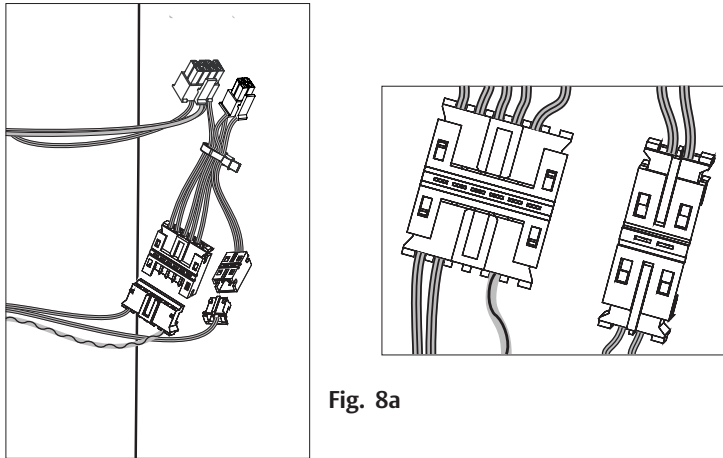

Fig. 8a
- a. Connect 6-pin connector from lock body to 6-pin connector on reader harness (Fig. 8a).
- b. Connect 2-pin connector from lock body to 2-pin connector on reader harness (Fig. 8a).